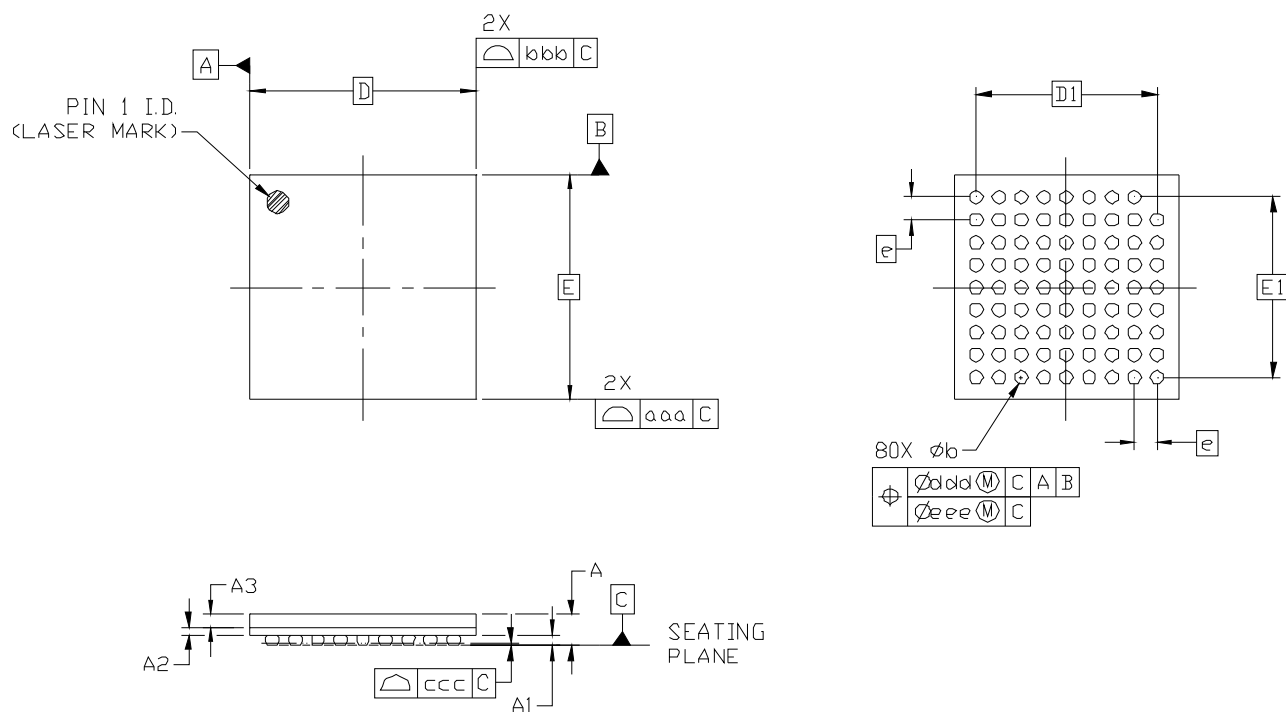

Figure 11. 80-Pin Plastic Ball Grid Array (PBGA)
Figure 11 illustrates the package details for the Si5375. Table 10 lists the values for the dimensions shown in the illustration.
- Corrected Figure 11 title.